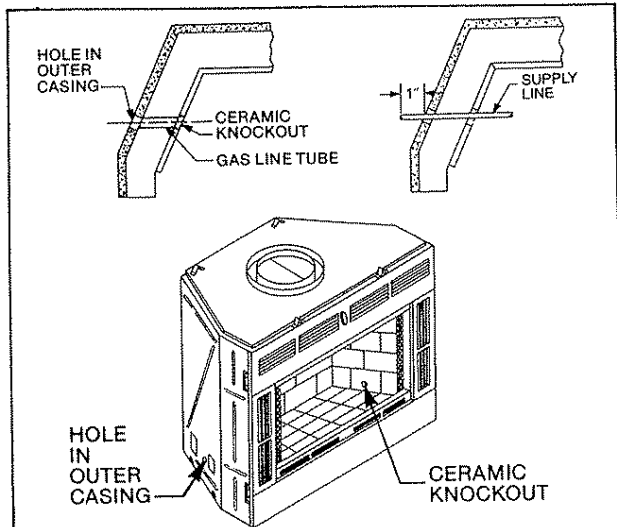

Fig. 25. Install iron pipe gas line through provided hole in both sides of fireplace.
Locate the gas line hole in the outer casing of the fireplace and remove the insulation from the gas line tube. Refer to Figure 25.
**NOTE:** The gas pipe should not come in contact with any wood structures until it has reached a point at least one (1) inch away from the fireplace side. See Figure 25 for installation clarification.